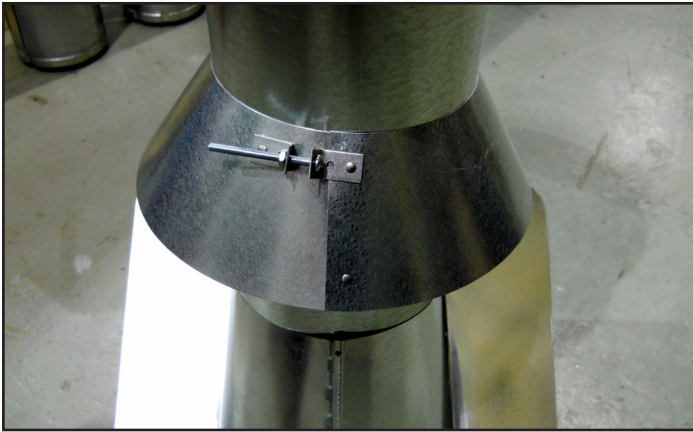

Figure 7.14 - Insert Bolt into Brackets
- Slide the assembled storm collar down the pipe section until it rests on the roof flashing (see Figure 7.14).